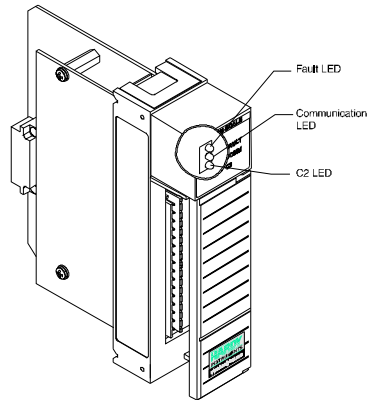

FIG. 4-1 MODULE LEDES
- Step 2. If there is power to the module, the LEDS should be lit. (See Fig. 4-1)